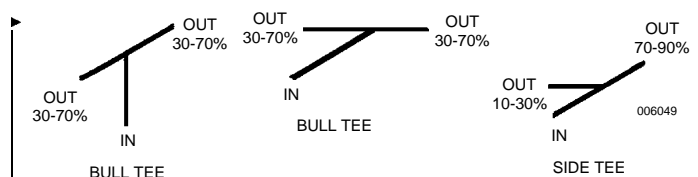

Figure 25a
**Note:** The side tee splits shall be between 10-30%, bull tee splits will be between 30-70%. All tee outlets must be in the same horizontal plane. See Figure 25a.